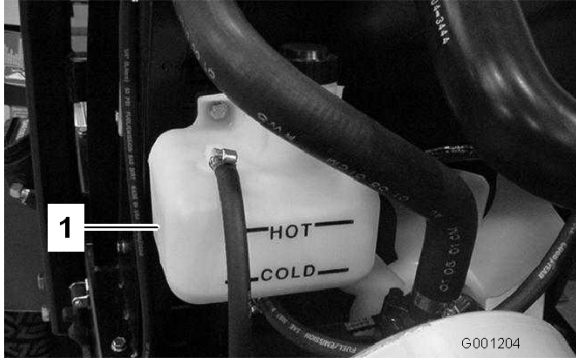

Figure 21
1. Check the level of the coolant in the expansion tank (Figure 21). The coolant level should be between the marks on the side of the tank.